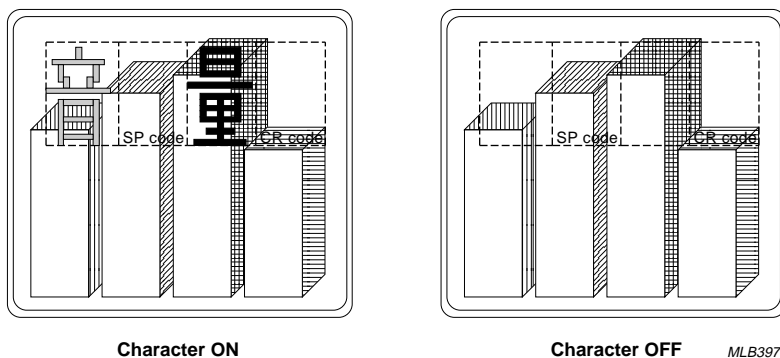

Fig.23 Blinking in No background (superimpose) mode.
Figures 23 to 26 show the display of Space and Carriage Return Characters in the 4 display modes, with the Blinking function ON and OFF.
- Mode 0: No background mode. Both the Space Code and the Carriage Return Code are displayed as transparent (no bit) patterns, with the video signal as the background. This is shown in Fig.23.